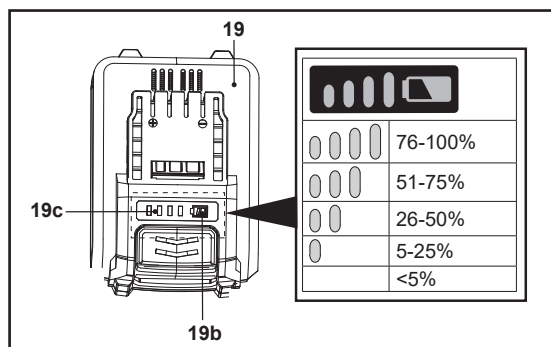

Fig. 8
The battery pack (19) is equipped with battery capacity indicators (19c) which are used to give an indication of the battery pack's remaining capacity. Press the battery capacity button (19b) to check battery capacity (Fig. 8). The LEDs will stay lit for approximately 5 seconds.